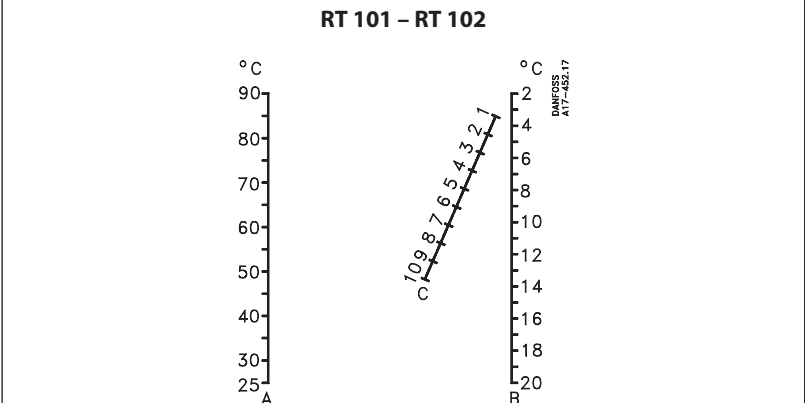

Fig. 4
differential adjusting nut (19) to the value indicated by the nomogram in Fig. 4. The maximum operating temperature is thus the sum of the temperature setting and the differential.